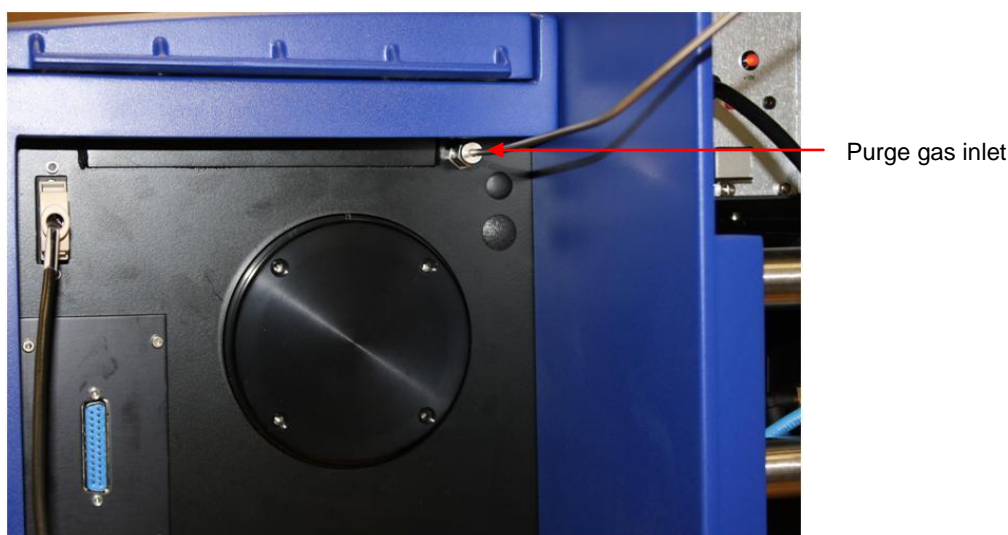

Figure 3.3: the purge gas inlet connection on the rear of the ESHU
2. Unscrew the compression fitting nut connecting the purge gas supply line to the rear of the ESHU (Figure 3.3).